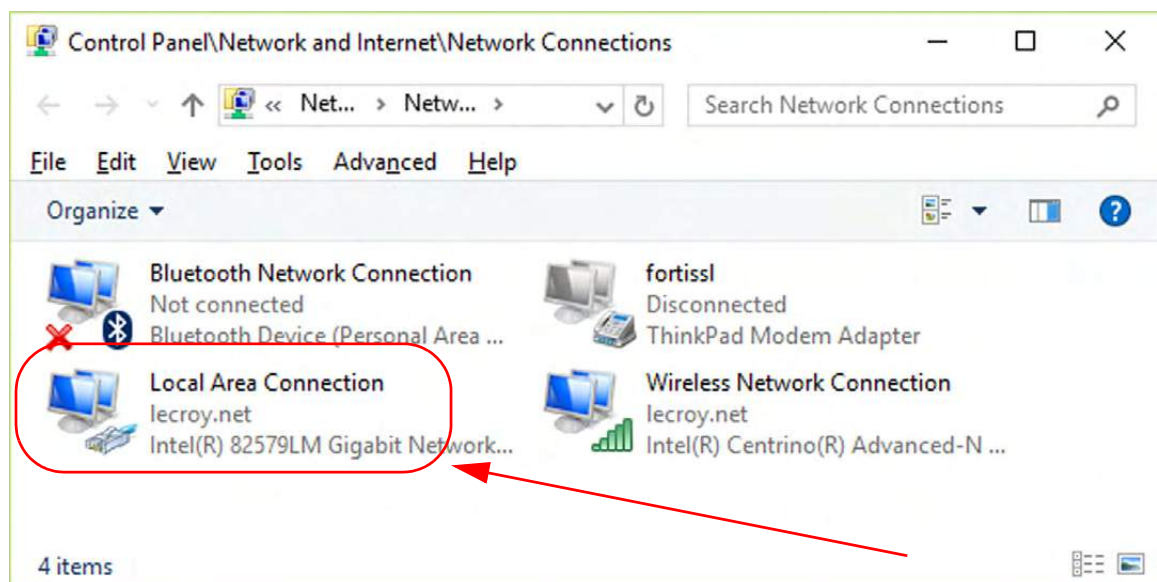

Figure 3.30: Local Area Connection Icon
3. Click on "Change Adapter Settings" and the Local Area Connection icon will pop up. See Figure 3.30.